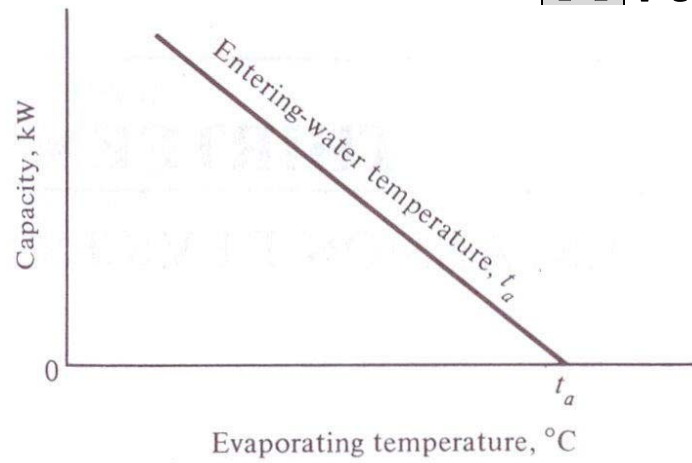

Fig.2 Evaporator performance curve
- (2) Prove that on a graph of the performance of a water-chilling evaporator with the coordinates of Fig. 2 a curve for a given entering water temperature is a straight line if the heat-transfer coefficients are constant.
- (3) A two-stage centrifugal compressor operating at 60r/s is to compress refrigerant 123 from an evaporating temperature of 3°C to a condensing temperature of 34°C . If both wheels are to be of the same diameter, what is this diameter?